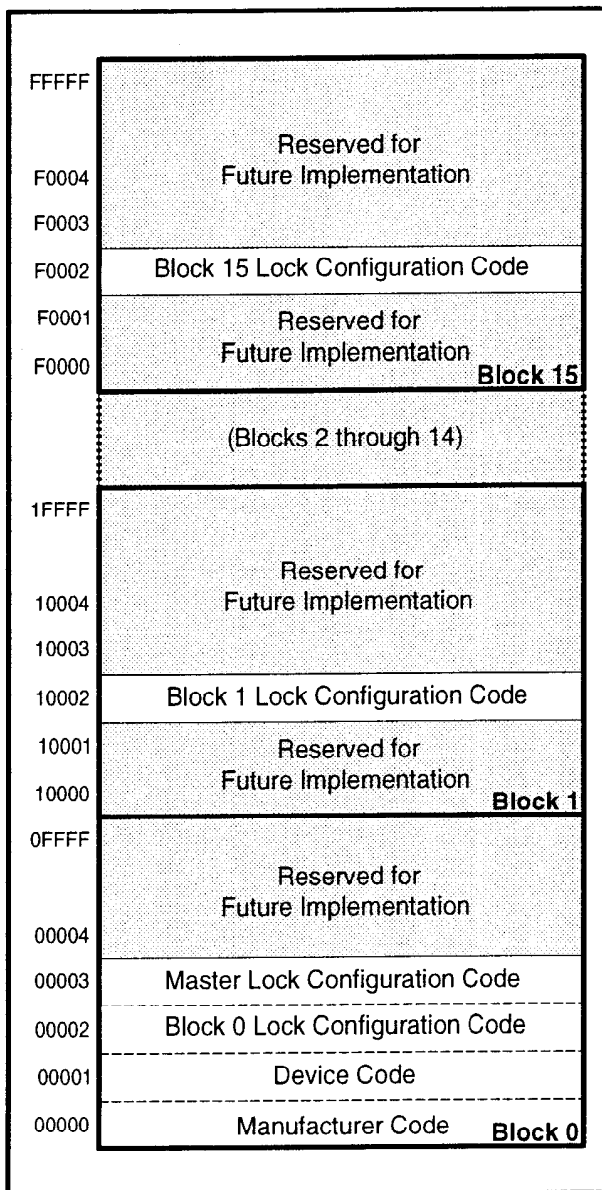

Figure 4. Device Identifier Code Memory Map
The read identifier codes operation outputs the manufacturer code, device code, block lock configuration codes for each block, and the master lock configuration code (see Figure 4). Using the manufacturer and device codes, the system CPU can automatically match the device with its proper algorithms. The block lock and master lock configuration codes identify locked and unlocked blocks and master lock-bit setting.
| Read Identifier Codes | 8       | V IH or V HH | V IL | V IL | V IH | See Figure 4 | X               | Note 5            | V OH |
IA=Identifier Code Address: see Figure 4.
The identifier code operation is initiated by writing the Read Identifier Codes command. Following the command write, read cycles from addresses shown in Figure 4 retrieve the manufacturer, device, block lock configuration and master lock configuration codes (see Table 5 for identifier code values). To terminate the operation, write another valid command. Like the Read Array command, the Read Identifier Codes command functions independently of the  $V_{PP}$  voltage and RP# can be  $V_{IH}$  or  $V_{HH}$ . Following the Read Identifier Codes command, the following information can be read:
1. X selects the specific block lock configuration code to be read. See Figure 4 for the device identifier code memory map.